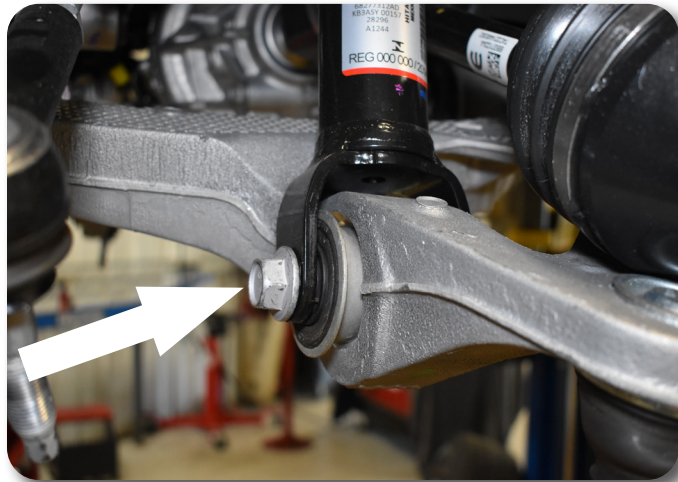

Figure 8
22. Loosen the strut-to-lower control arm hardware Fig. 8. Remove the nut from the bolt and leave the bolt in place to temporarily retain the strut to the lower control arm. Retain the nut.